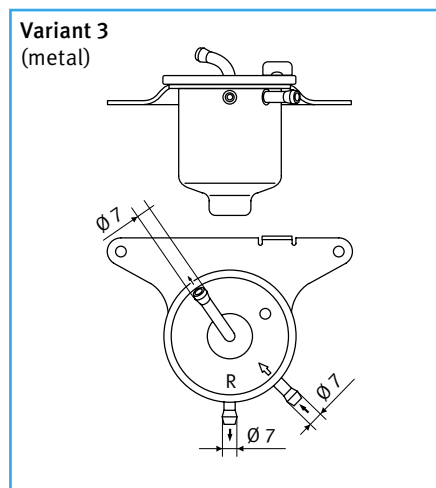

Figure 20 Fuel vapor separator
- **Variant 3** (Figure 20) has a larger fuel container with a fixed jet in the return. This allows larger amounts of fuel to be kept near the carburetor and pre-degassed. When starting with a hot engine, only degassed fuel enters the float chamber, avoiding foaming that may cause vapor lock in the engine.